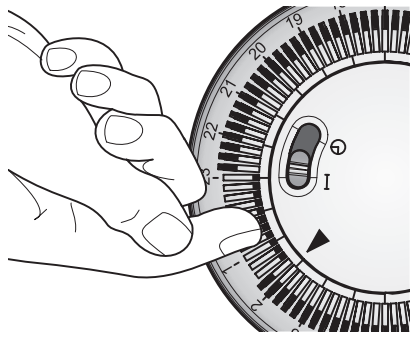

Fig. 5
- Using your finger tip or the tip of a pencil, push in as many segments as necessary around the dial, according to the times you don't require heat – see Fig. 5. Each segment pushed in switches the heater OFF for that part of the hour. All other segments will be ON. For example, Fig. 5 shows the timer set to switch the heater OFF between 11pm and 1.45am.
Check that the clock shows the correct time of day. Set the mode slide switch to , the heater will switch ON and OFF according to the timer settings (see Fig. 5).